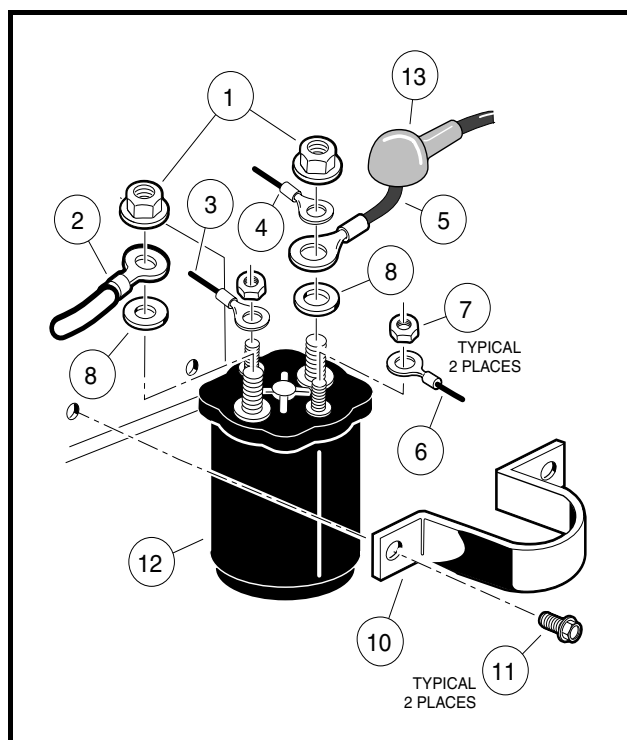

Figure 12-4 Main Solenoid
3. Disconnect all wires from the solenoid (12) (**Figure 12-4, Page 12-5**).
4. Loosen, but do not remove, one of the thread rolling screws (11) that hold the solenoid mounting bracket (10) to the component mounting plate (**Figure 12-4, Page 12-5**).
5. Lift the solenoid (12) up and out of the mounting bracket (10) (**Figure 12-4, Page 12-5**).
1. Mount solenoid (12) onto component mounting plate with mounting bracket (10) (**Figure 12-4, Page 12-5**).
2. Tighten thread rolling screws (11) to 20 in.lb (2.2 N-m) (**Figure 12-4, Page 12-5**).
3. Install washers (8), wires (2, 4 and 13) and lock nuts (1) onto large mounting posts. Tighten nuts to 60 in.lb (6.7 N-m) (**Figure 12-4, Page 12-5**). **See Section 11, Figure 11-1, Page 11-2 for wire destinations.**
4. Install wires (3 and 6) and nuts (7) onto small mounting posts. Tighten to 18 in.lb (2.0 N-m) (**Figure 12-4, Page 12-5**).